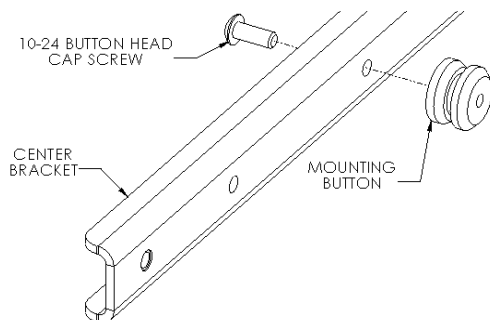
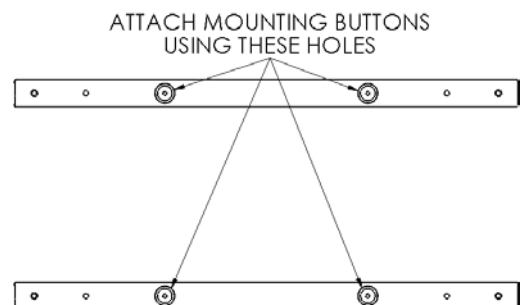

Figure 2
Figure 3
- Chief Q-latch Button Installation (Used with MSR, MTR, MWH, MWR, MCS and MCD mounts):** Using a 10-24 button head cap screw inserted from back side of bracket, secure mounting button, with chamfered hole of mounting button (larger surface) facing bracket, to center brackets (four places) (see Figure 2 and Figure 3).